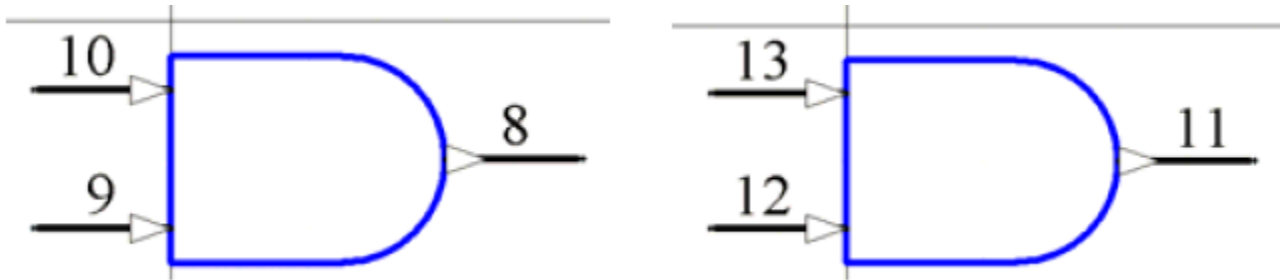

Figure 35. Part C and D of the 74F08SJX
6. Repeat steps 3 to 5 above to create the remaining two parts, Part C and D, as shown in Figure 35. Save the library.